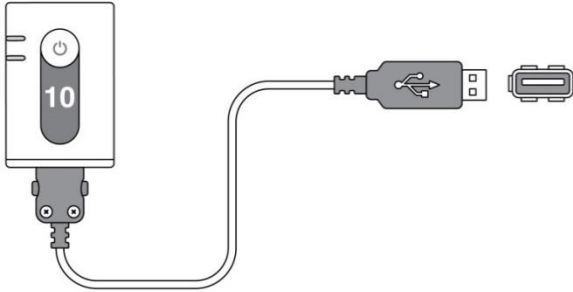

Fig. 14. Charging the sensor using USB cable
Connect one end of the USB cable to the sensor (pos. 4 in Fig. 5) and another end of the cable – to the USB port of the computer (Fig. 14).